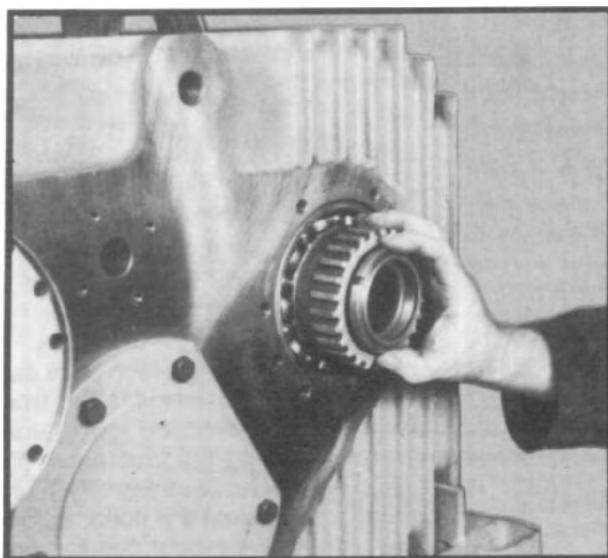

Fig. 117
- 2.8 Slide clutch gear onto front of shaft and secure to shaft with special nut. (Install nut finger tight.) (See fig. 117.)
3.8 Slide clutch gear onto front of shaft and secure to shaft with special nut. (See fig. 117.)